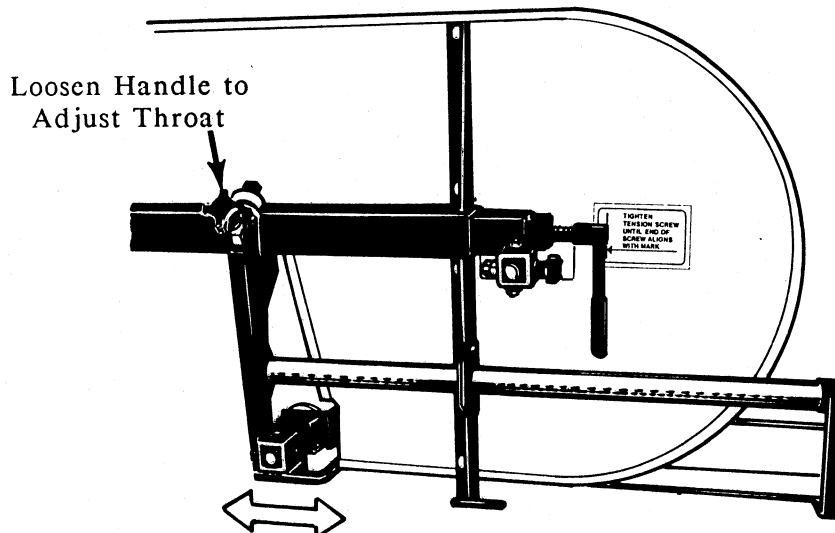

FIGURE 4
20. Adjust the width of the throat by sighting down the log to determine its maximum width. The movable blade guide should be adjusted to clear the widest section of the log by less than one (1) inch. This is done by loosening the clamping knob and sliding the movable blade guide horizontally in or out as necessary (See Figure 4). **NEVER** adjust the throat width while the blade is moving.